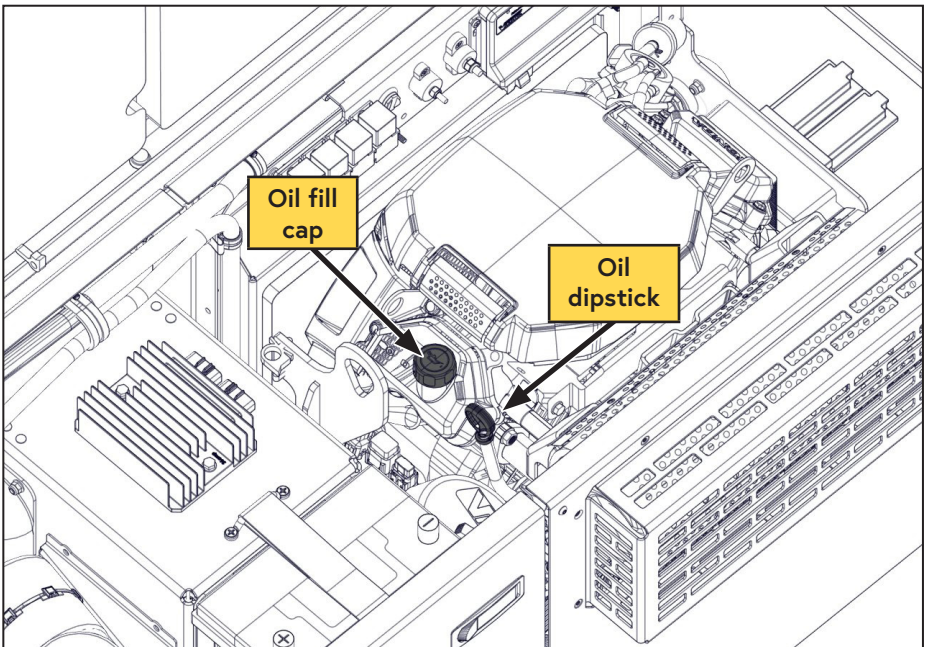

Figure 37 — Remove oil fill cap
- Remove the engine oil fill cap (Figure 37).